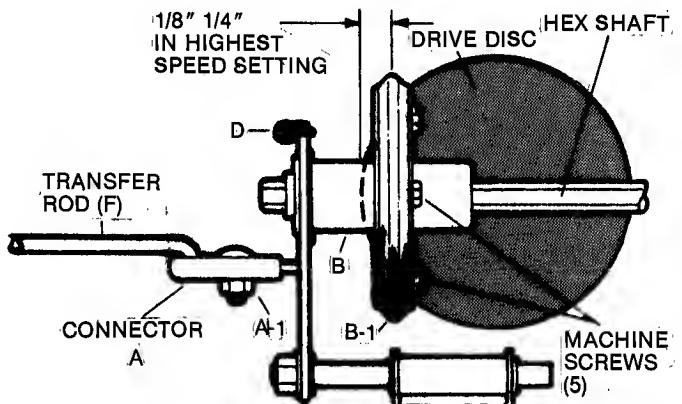

FIG. 13 -DRIVEN DISC COMPONENTS
DRIVEN DISC ADJUSTMENT: Stop the engine and shift the GROUND SPEED CONTROL (12) into the highest setting. The CENTER of driven disc should be $1/8$ " to $1/4$ " from the EDGE of the drive disc as shown in FIG.13. To re-adjust, loosen connector hex nut (A-1) and slide the driven disc in or out as required. Re-tighten connector hex nut to secure the driven disc in the proper position.